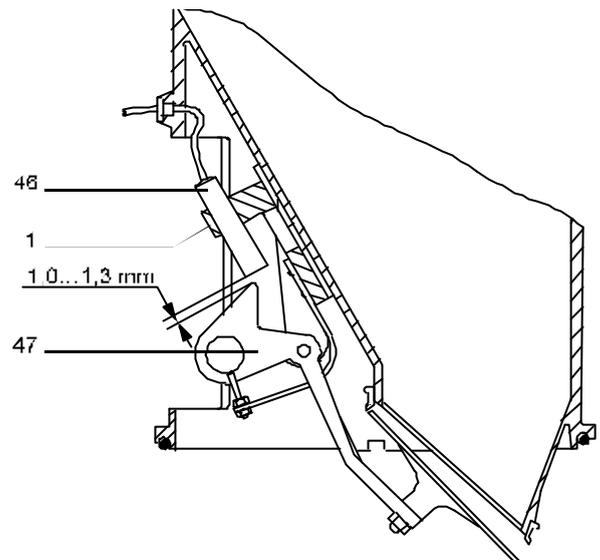

Fig. 7.2.2.-1
Proceed as follows when replacing the proximity switch (46) (see fig. 7.2.2.-1):
- Unscrew the cable plug out of the proximity switch (46).
- Loosen the screws of the clamping lug (1) (see fig. 7.2.2.-1).